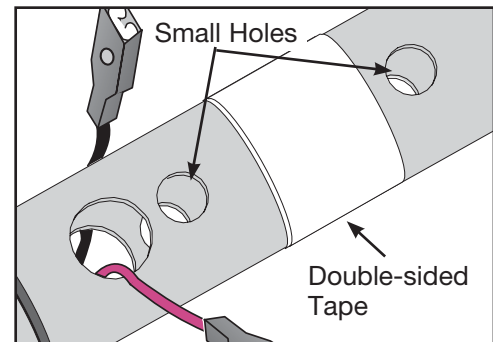

Figure 31
- A. Remove the protective paper from the loose pieces double-sided tape and stick each one between two small holes in the handrail. See Figure 31.